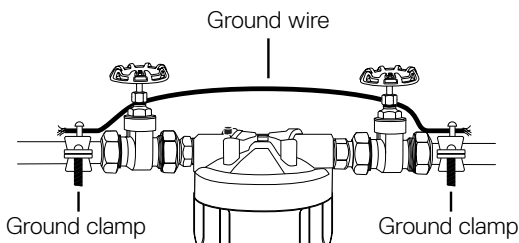

Figure 3
5. When installing on metallic plumbing: Securely install two grounding clamps and a #4 copper wire across the location where the system will be installed, tightly clamping it at both ends as shown in figure 3."